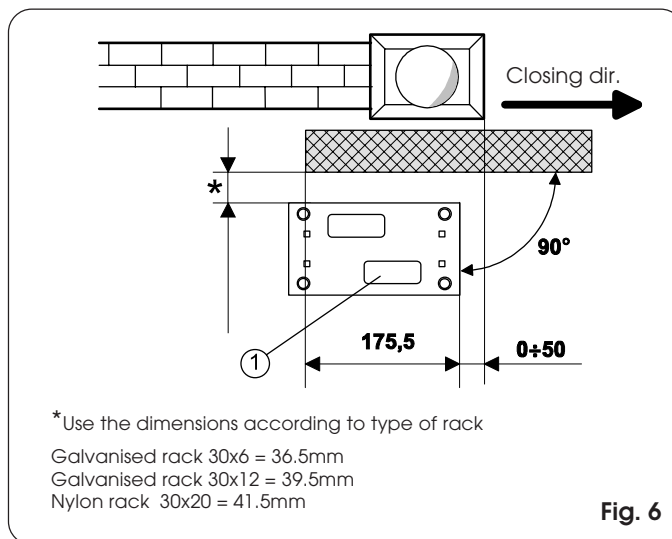
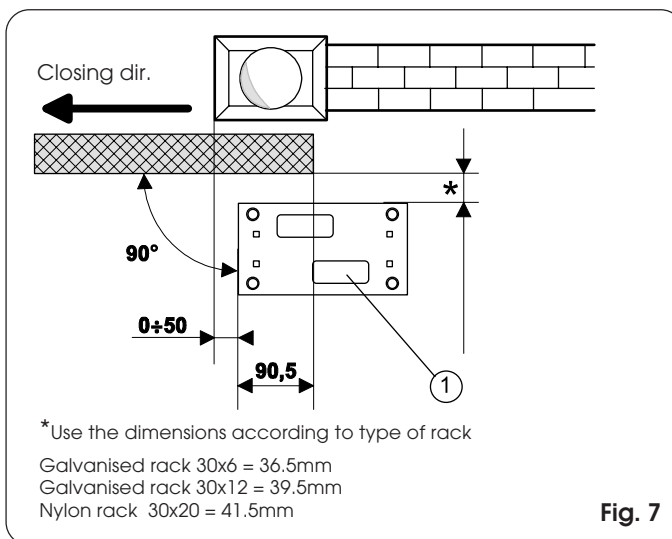

Fig. 6
Fig. 7
- 1) The foundation plate must be located as shown in Fig. 6 (right closing) or Fig. 7 (left closing) to ensure the rack and pinion mesh correctly.